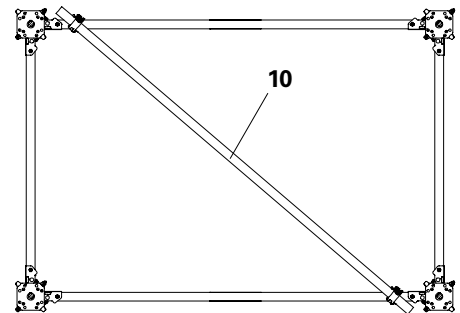

Fig. A3.05
- For towers with heights > 7.0 m, a scaffold tube  $\varnothing 48.3 \times 3.2$  is to be attached to the MRK frames as a horizontal brace (**10**) by means of swivel couplings at around half the tower height to safeguard the cross-sectional form. (Fig. A3.05)
1. Brace the tower in the centre with a horizontal brace, see Fig. A3.05.